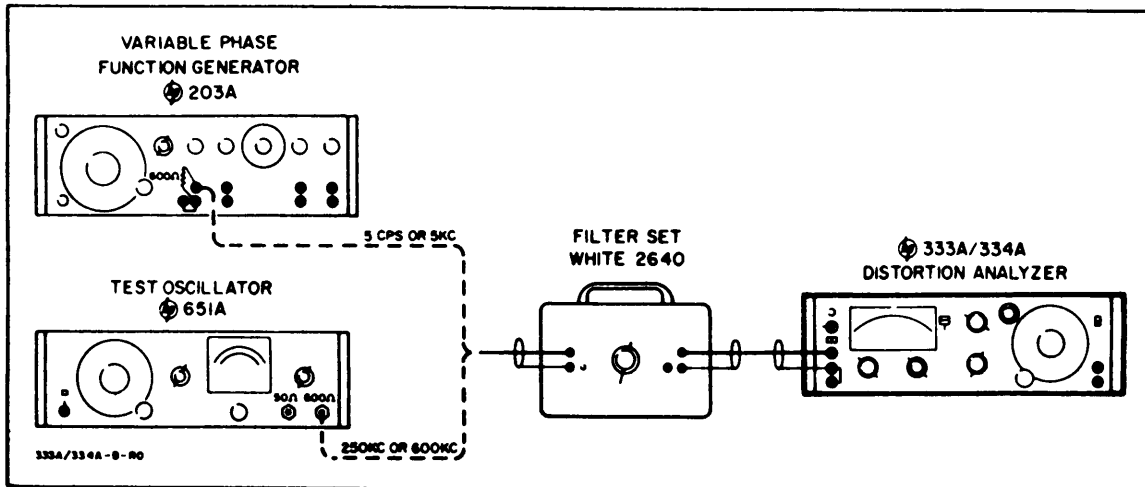

Figure 5-2. Instrument Induced Distortion and Automatic Control Loop Test Setup
a. Connect 333A/334A as shown in Figure 5-2.